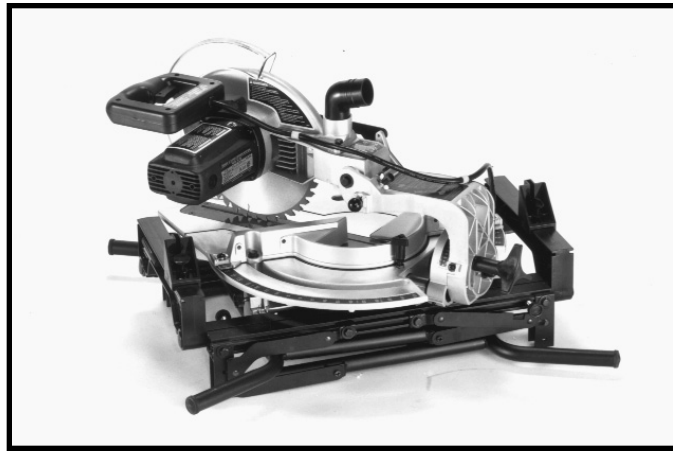

Fig. 59
6. Fig. 59, illustrates the stand in the folded position.